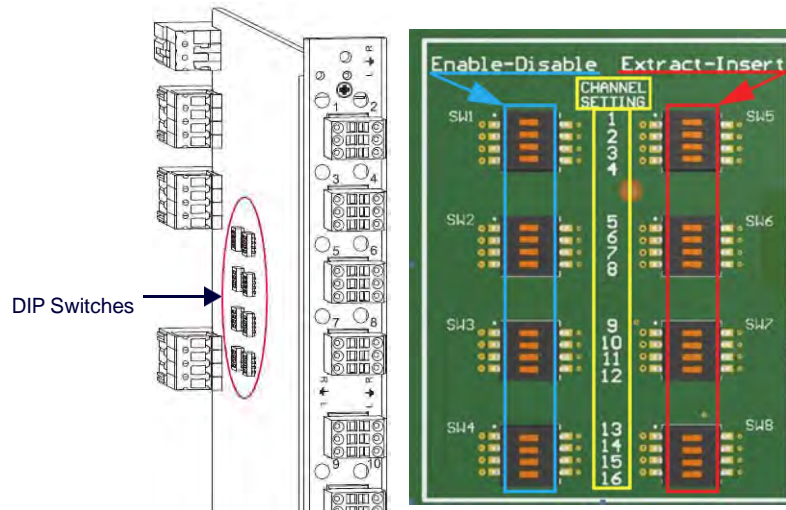

FIG. 107 Flip DIP switches to change settings
Each board has two DIP switches per AIE connector with the corresponding AIE connector number displayed vertically between the switches, labeled "Channel Setting" (FIG. 107):
- Located on the left (see blue rectangle in FIG. 107).
- Located on the right (see red rectangle in FIG. 107).